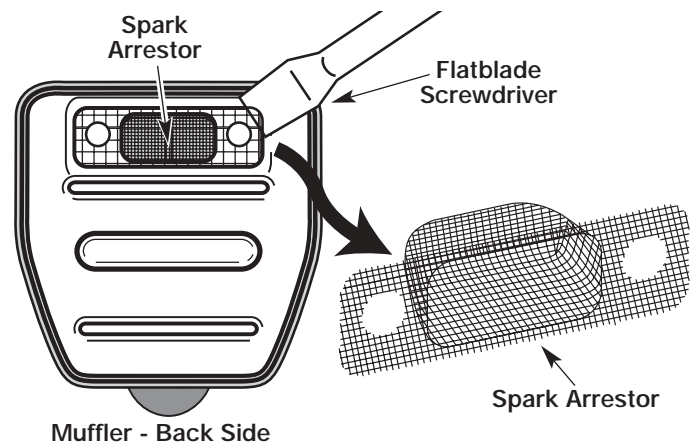

Fig. 25
4. Using a small flatblade screwdriver, carefully pry up the spark arrester from the recessed hole (Fig. 25). Remove the spark arrester from the muffler.
5. Clean the spark arrester with a wire brush. Replace it if it is damaged or if it is impossible to clean thoroughly (Fig. 25).